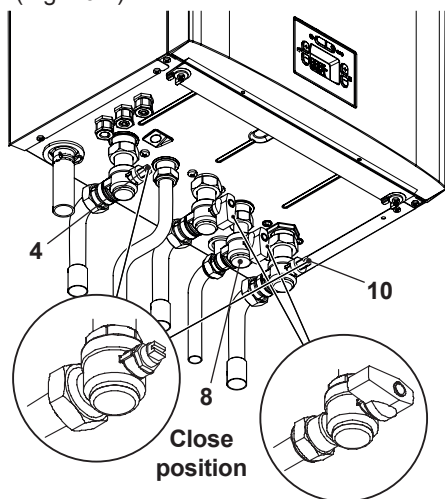

Fig. 10.7
- Turn off the D.C.W. inlet isolating valve 8 (Fig. 10.7).
- Close the C.H. isolating valves (4 and 10 in Fig. 10.7).